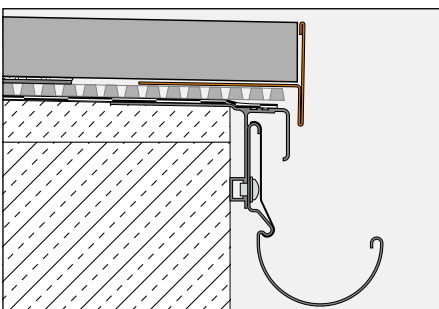

Fig. 2
- 3.2 When installing on top of Schlüter®-TROBA-PLUS with thin bed moulding rings, Schlüter®-TROBA-STELZ-DR (Fig. 2), the Schlüter®-BARA-RT finishing profile will cover the exposed edge of the assembly. The outside thin bed contact points are positioned on the trapezoid perforated anchoring leg of Schlüter®-BARA-RT.